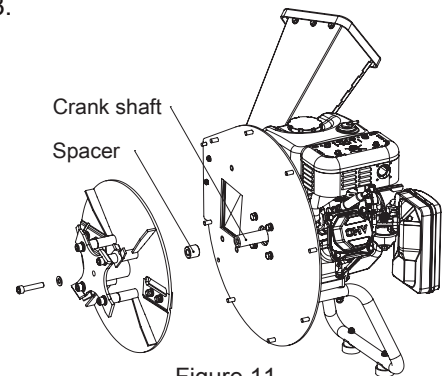

Figure 11
4. Remove the rotor by removing the hardware that secures it to the engine crank shaft. SEE FIGURE 11. NOTE: Do not lose spacer. During reassembly Be sure to place spacer is installed inside rotor. Without spacer, rotor will interfere with housing components.